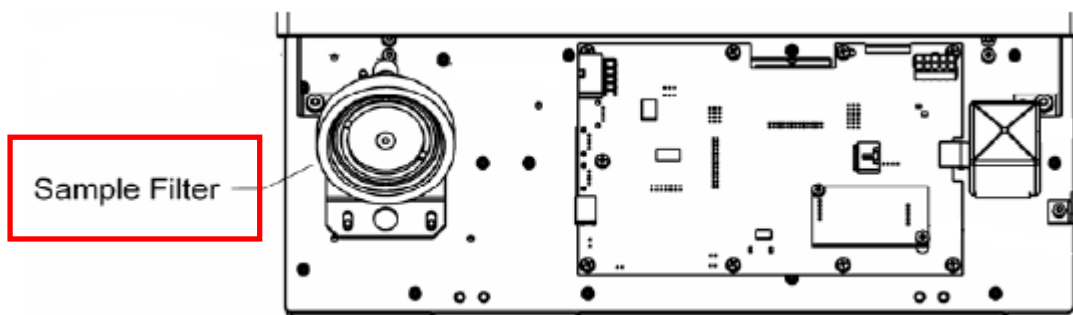
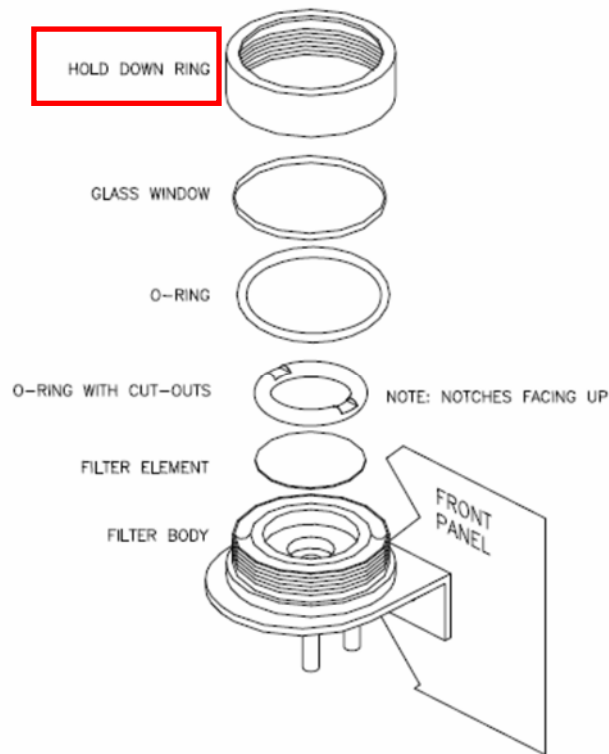

Figure 2 T200UP Hinged Front Panel
Figure 3 T200UP Particulate Filter Assembly
2. Open the T200UP's hinged front panel and unscrew the hold down ring on the filter assembly (see **Figure 2** and **Figure 3**).
7. Remove the sample line and cap the sample port (see Figure 2). Cap must be wrench tight.